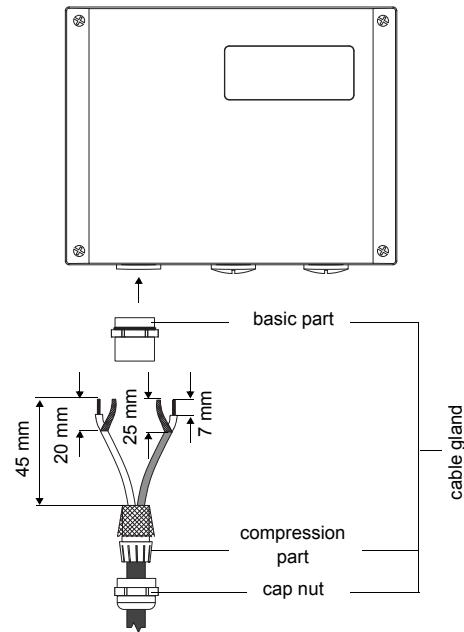

Fig. 6.7: Connection to the transmitter
- Remove the left blind plug for the connection of the transducers (see Fig. 6.7).
- Connect the leads to the terminals of the transmitter (see Fig. 6.7 and Tab. 6.2).